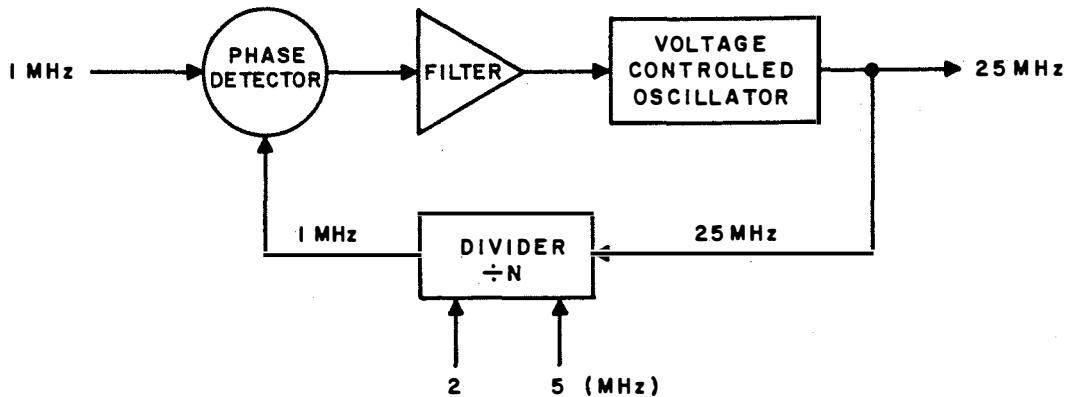

Figure 3-9. Programmable Phase Lock Loop
**3-82.** An example of the basic phase lock loop technique, using numbers, will provide an understanding of its actual operation. Referring to figure 3-9, the desired frequency is